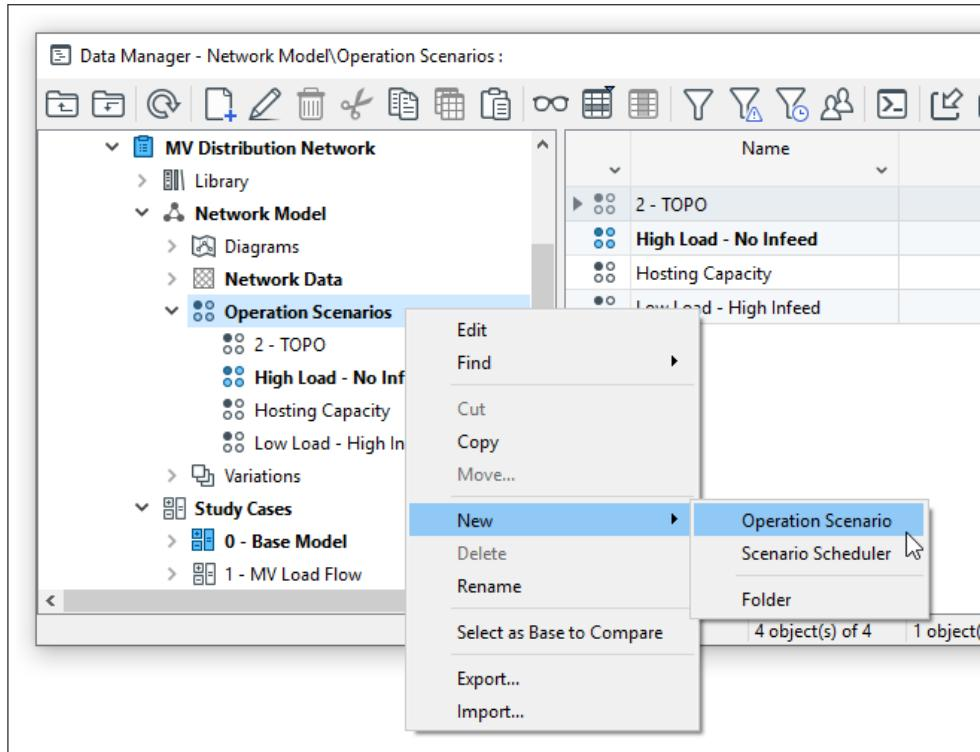

Figure 16.3.1: Creating a new operation scenario object using the Data Manager.
2. Select *New* → *Operation Scenario* from the context-sensitive menu as shown in Figure 16.3.1.